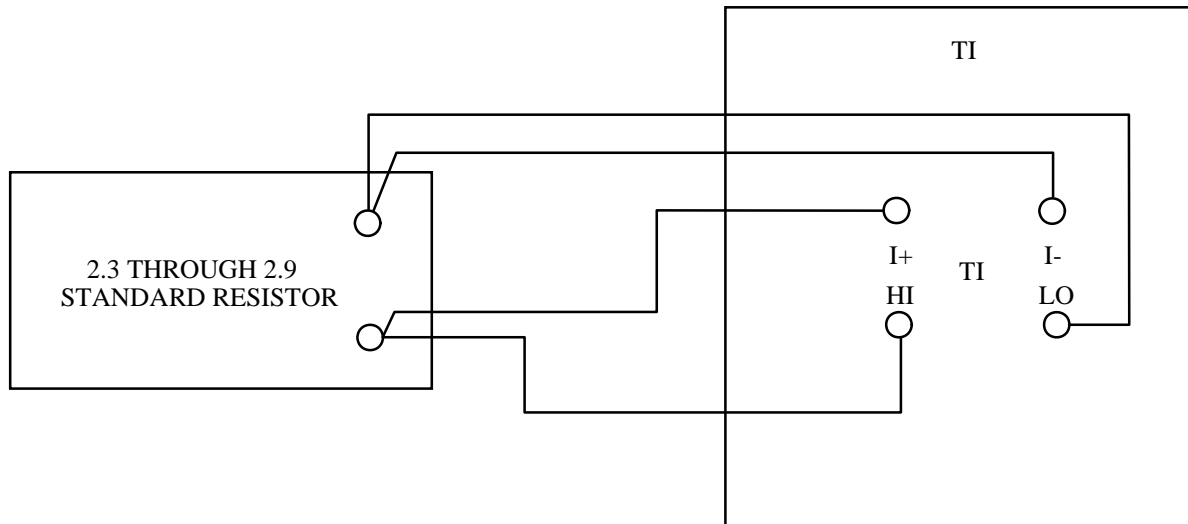

Figure 6. Ohm Test
4.2.10 Connect the equipment as outlined in Figure 6. Both pieces of equipment should be connected to the same power source.